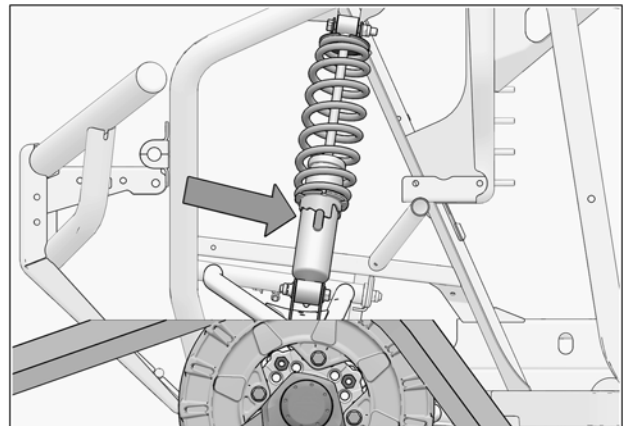

Fig. 20
- Verify the suspension settings. If the shock absorbers are adjustable, adjust them to the stiffest setting to allow for maximum clearance between the System and the vehicle's fenders. See Fig. 20